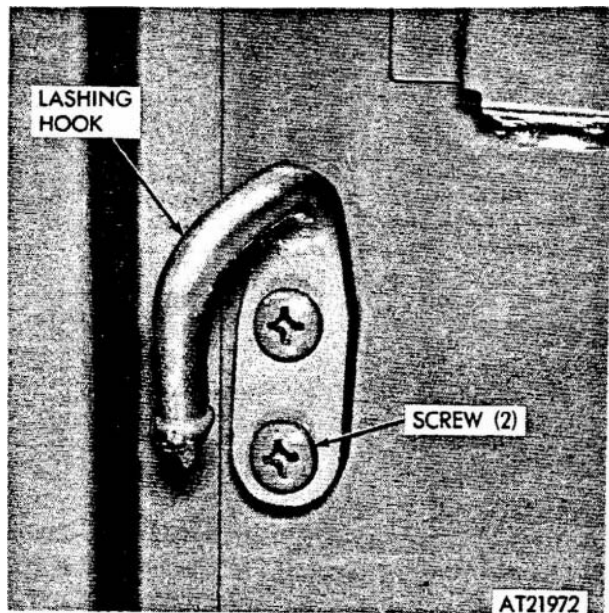

Figure 2-320. Carrier lashing hooks, removal and installation.
a. Removal. Remove lashing hook(s) by removing two screws and lock nuts securing hook(s) to carrier sides (fig 2-320).
b. Installation. Position lashing hook(s) on carrier side(s) and secure with two screws and lock nuts (fig 2-320).